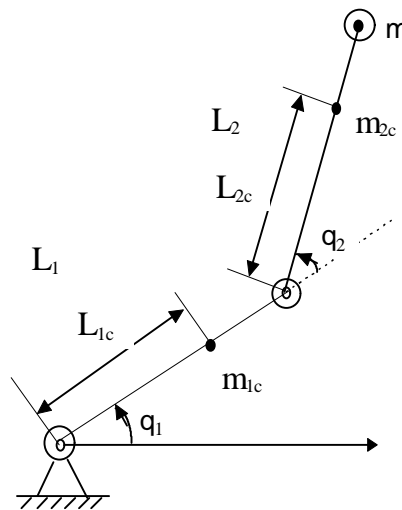

Figure 3: Two link rotary robot in the horizontal plane
- Q.3 (a) In Figure 3, m is the mass of the payload, m_{1c} and m_{2c} are the masses of links 1 and 2, and L_{1c} and L_{2c} are the lengths from the centres of masses m_{1c} and m_{2c} to joint 1 and joint 2, respectively. Let t_1 and t_2 be the output torques of motors 1 and 2 which are located at the joints. Show that the equations of motion for the two degrees-of-freedom robot in the horizontal plane can be written as